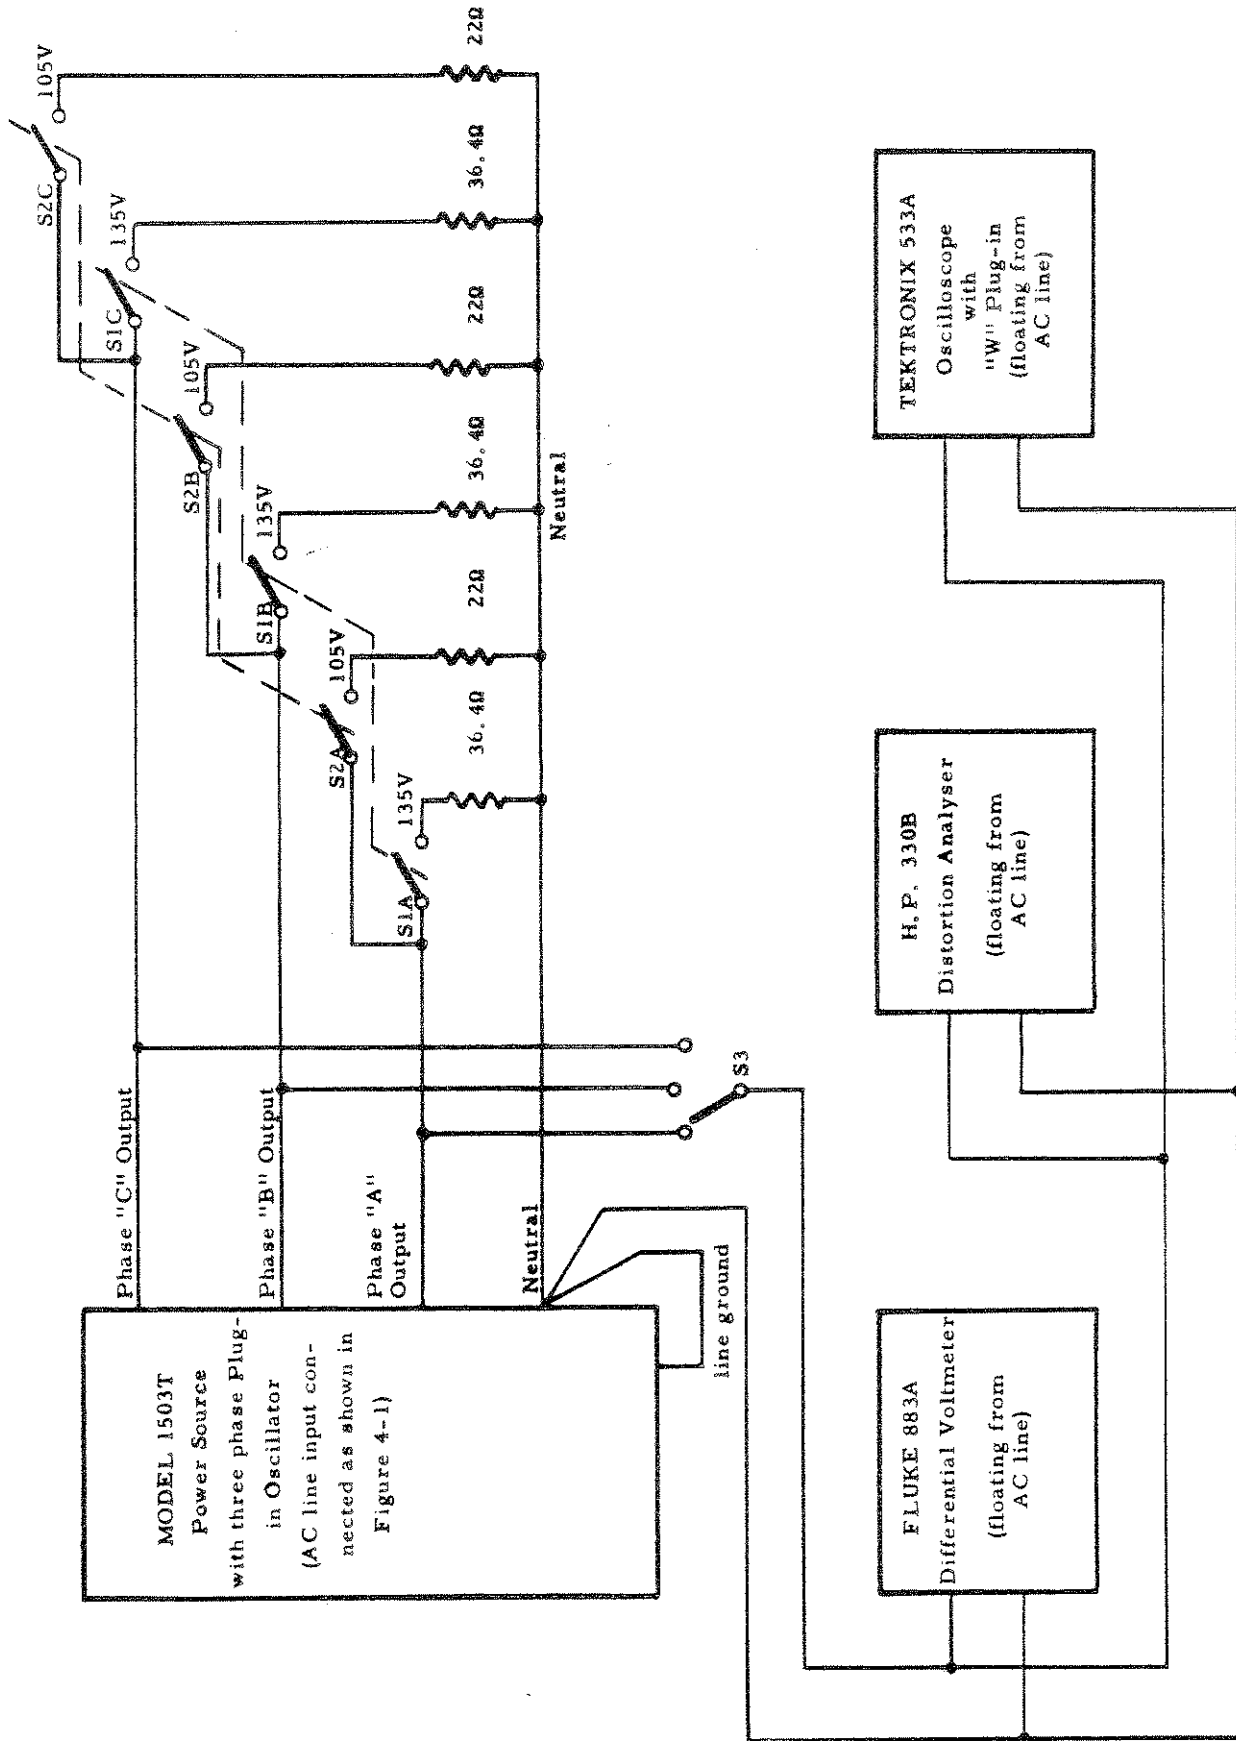
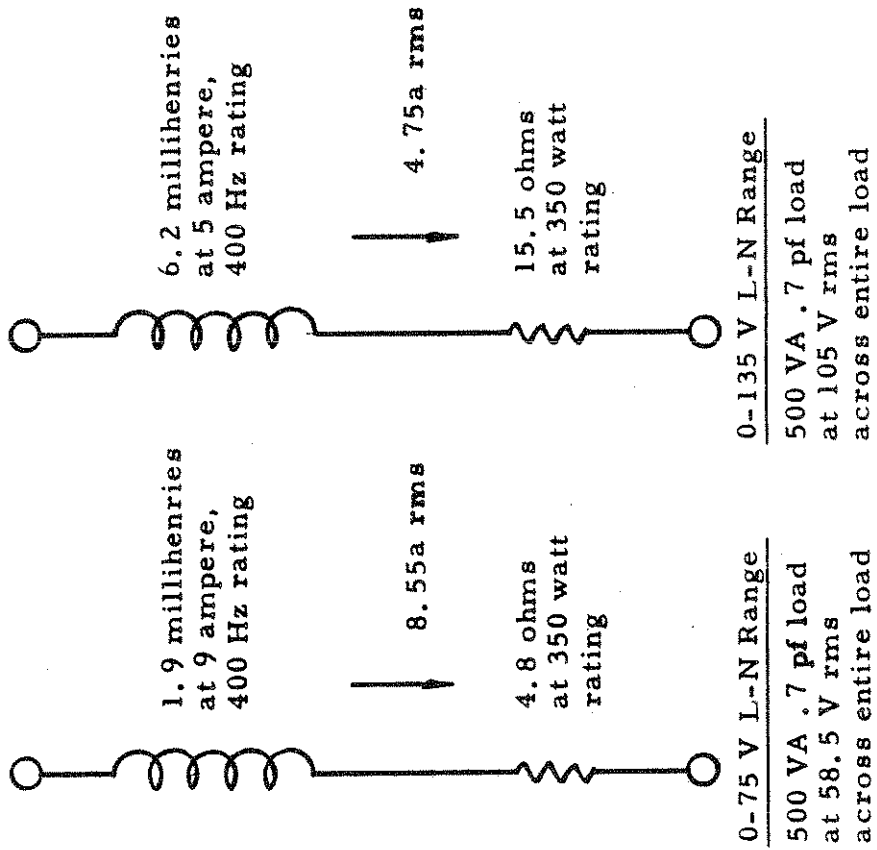
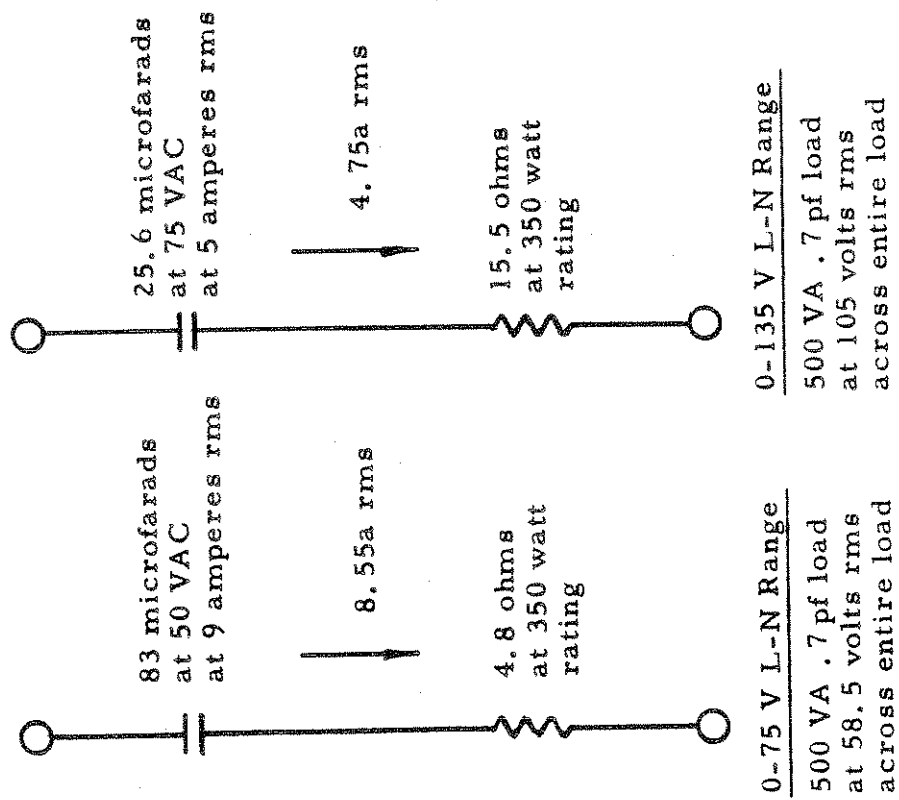

FIGURE 4-3. Test circuit for Model 1503T Three Phase Power Source.
FIGURE 4-4. Circuit for 500 VA line-to-neutral 0.7 Lagging Power Factor Load at 400 Hz.
FIGURE 4-5. Circuit for 500 VA line-to-neutral 0.7 Leading Power Factor Load at 400 Hz.
- 4.4.1 Connect the Model 1503T Three Phase Power Source as shown in Figure 4-3. Select the 135 volt L-N range according to the procedure given in section 2.4 of this instruction manual. Monitor the phase "A" to neutral output of the power source with the differential voltmeter, the distortion analyser, and the oscilloscope. Adjust the AMPLITUDE control on the associated three phase oscillator to provide a line-to-neutral output of 105 volts (78 per cent of rated output voltage) at 400 Hz. Close switch S2 (22 ohm load from line-to-neutral) and readjust the output voltage slightly, if required, in order to maintain a 105 volt output. The power source should deliver a clean sine wave output with less than 0.30 per cent distortion. Vary the frequency from 45 Hz to 5 KHz and check that the distortion does not exceed 0.75 per cent over the three phase AC input line voltage range of 190-226 volts L-L while maintaining the output voltage at 105 volts rms. Adjust potentiometer A1R42 so that no clipping or excessive distortion occurs on the positive peak of the output waveform under worst case conditions outlined above. Adjust potentiometer A1R45 so that no clipping or excessive distortion occurs on the negative peak of the output waveform under worst case conditions outlined above. These two adjustments may interact somewhat, so care should be taken not to move one adjustment excessively without checking the effect on the other adjustment.
- 4.5.1 Connect the Model 1503T Three Phase Power Source as shown in Figure 4-3. Adjust the AMPLITUDE control on the associated three phase oscillator to provide a phase "A" line-to-neutral output voltage of 135 volts (100 per cent of rated value) at 400 Hz with switch S1 and S2 both open so that there is no load on the output of the power source.
- 4.6.1 Connect the Model 1503T Three Phase Power Source as shown in Figure 4-3. Select the 135 volt L-N range according to the procedure given in section 2.4 of this instruction manual.
4.7.1 Connect the Model 1503T Three Phase Power Source as shown in Figure 4-3. Select the 135 volt L-N range according to the procedure given in section 2.4 of this instruction manual. Adjust the variac to provide a 208 volt three phase AC line input and allow the power source to warm up for a few minutes. Set the oscillator output to 400 Hz and adjust the AMPLITUDE control to provide a 135 volt line-to-neutral output with switch S1 closed so that a 36.4 ohm load is across each phase of the output of the power source. Vary the AC input L-L voltage from 190 volts to 226 volts with the variac and check that the harmonic distortion in each phase is less than 0.3 per cent over the full input line voltage range. If problems are encountered, check that the overload adjustment procedure given in section 4.4 of this instruction manual has been followed.
4.8.1 Connect the Model 1503T Three Phase Power Source as shown in Figure 4-3. Select the 135 volt L-N range according to the procedure given in section 2.4 of this instruction manual. Adjust the variac to provide a 208 volt three phase AC line input. Set the oscillator frequency to 400 Hz and adjust the AMPLITUDE control to provide a 135 volt line-to-neutral output (100 per cent of rated output voltage) with switch S1 closed so that a 36.4 ohm load is across each phase of the output of the power source.
- 4.9.1 Connect the Model 1503T Three Phase Power Source as shown in Figure 4-3. Check that the load is connected to the large output terminals (TB3) at the rear of the power source. The output voltage may be monitored either at the rear or the front of the power source. If it is monitored at the rear of the power source, care should be taken to use separate four-wire sensing. Adjust the output voltage of the power source to 105 volts line-to-neutral (78 per cent of rated output voltage) at 400 Hz.
- 4.10.1 Connect the Model 1503T Three Phase Power Source as shown in Figure 4-3. Adjust the three phase AC input line voltage to 208 volts L-L. Adjust the output of the power source to provide 115 volts line-to-neutral (85.3 per cent of rated output voltage) at 400 Hz. Connect a 26.4 ohm (500 VA) three phase four-wire load to the output terminals at the rear of the power source and check that the regulation control has been set to provide a zero output impedance.
- 4.11.1 Connect the Model 1503T Three Phase Power Source as shown in Figure 4-3. Adjust the three phase input AC line voltage to 208 volts L-L. Adjust the output of the power source to provide 135 volts line-to-neutral (100 per cent of rated output voltage) at 400 Hz.
- 4.12.1 Connect the Model 1503T Three Phase Power Source as shown in Figure 4-3. Adjust the three phase input line voltage to 208 volts L-L. Adjust the output of the power source to provide 105 volts line-to-neutral (78 per cent of rated output voltage) at 400 Hz.
- 4.13.1 Connect the Model 1503T Three Phase Power Source as shown in Figure 4-3. Select the load circuit to correspond with the required output voltage range. Figure 4-4 illustrates the load circuit and gives load parameter values for a 500 VA per-phase 0.7 power factor load at 400 Hz with 78 per cent of rated output voltage from the power source. This represents the worst case inductive load for maximum power dissipation inside the power source.
- 4.14.1 Connect the Model 1503T Three Phase Power Source as shown in Figure 4-3. Select the load circuit to correspond with the required output voltage range. Figure 4-5 illustrates the load circuit and gives load parameter values for a 500 VA per phase line-to-neutral 0.7 power factor load at 400 Hz with 78 per cent of rated output voltage from the power source. This represents the worst case capacitive load for maximum power dissipation inside the power source.
- 4.15.1 Connect the Model 1503T Three Phase Power Source as shown in Figure 4-3. Select the 135 volt L-N range according to the procedure given in Section 2.4 of this instruction manual. Adjust the three phase variac to provide a 208 volt L-L AC line input. Set the oscillator output to 400 Hz and adjust the AMPLITUDE control to provide a 135 volt (100 per cent of rated output voltage) line-to-neutral output with switch S1 closed. This provides a 36.4 ohm symmetrical load across each phase of the output of the power source.